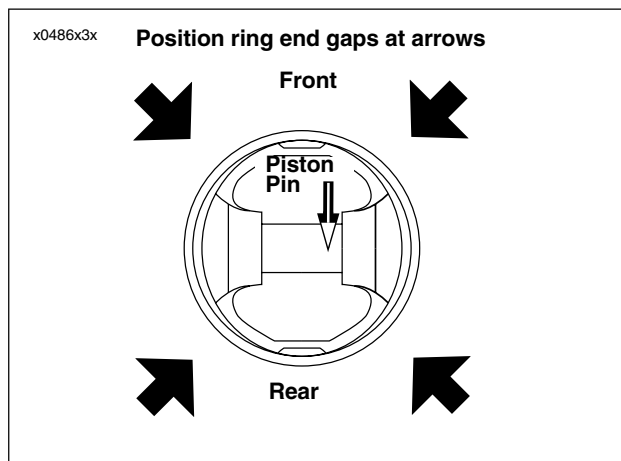

Figure 3-87. Ring End Gap Position
5. See Figure 3-87. Make sure the piston ring end gaps are properly positioned as shown.